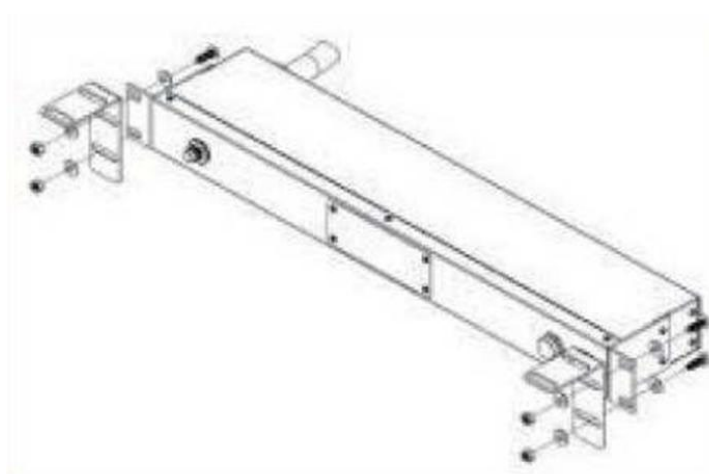

**FIGURE 1**
1. Attach the two (2) XPDU horizontal mounting brackets (included) on each end of the XPDU using four (4) retaining screws (included) see Figure 1.